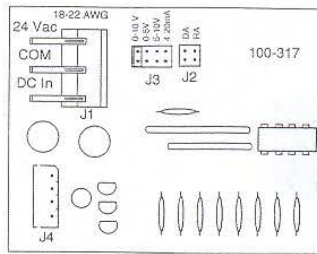
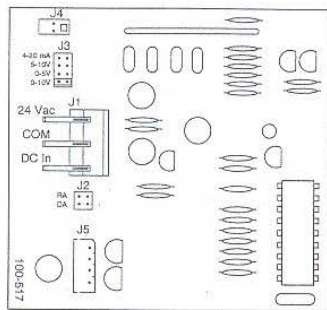

Figure-8 Typical Wiring of 3-Wire Proportional Non-Spring Return Valves
Figure-9 Typical Wiring of 3-Wire Proportional Spring Return Valves
1. Remove the cover from the actuator, then connect the power and control wiring to the terminal block (Figure-8 and Figure-9).
All units are shipped with the actuator in the direct-acting, 0 to 10 Vdc mode, which means that the valve opens the B port upon receiving an increasing Vdc control signal. To change the action to reverse-acting (valve closes with an increase in control signal), simply remove the action jumper J2 and relocate it to the reverse-acting pins. See Figure-8 and Figure-9.